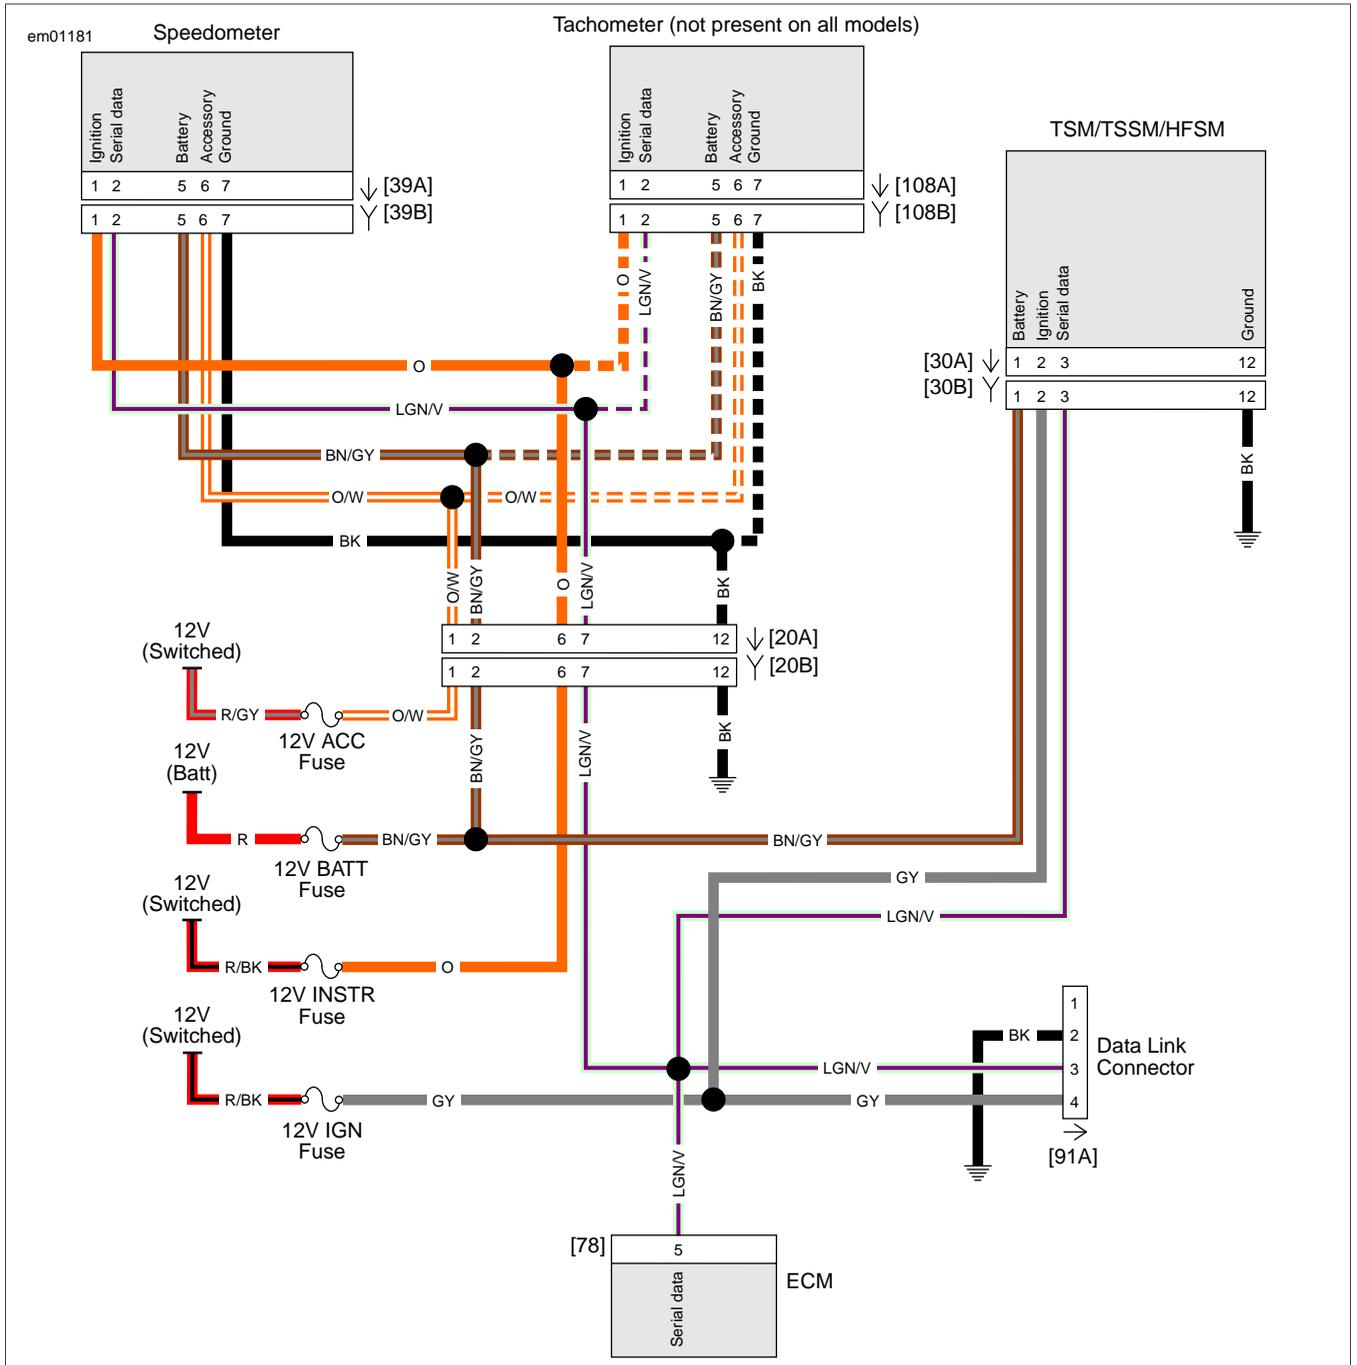

Figure 3-11. Initial Diagnostic Check
- See Figure 3-11. If odometer reads "BUS Er" with the Ignition Switch turned to IGNITION (Engine Stop Switch at RUN with the engine off), check data bus for an open or short to ground between data link connector [91A] terminal "3" and ECM connector [78B] terminal "5", HFSM connector [30B] terminal "3", speedometer connector [39B] terminal "2" or tachometer (if equipped) connector [108B] terminal "2".